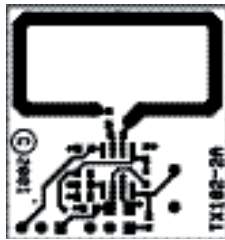

Figure 7. Demo Board PCB.
*Note 2.* Ideally, the antenna size should not be larger than the one shown in Figure 7. The bigger the antenna area, the higher the loaded Q in the antenna circuit will be. This will make it more difficult to match the parallel and series
The reference design, shown in Figure 7, has an antenna meeting this requirement.